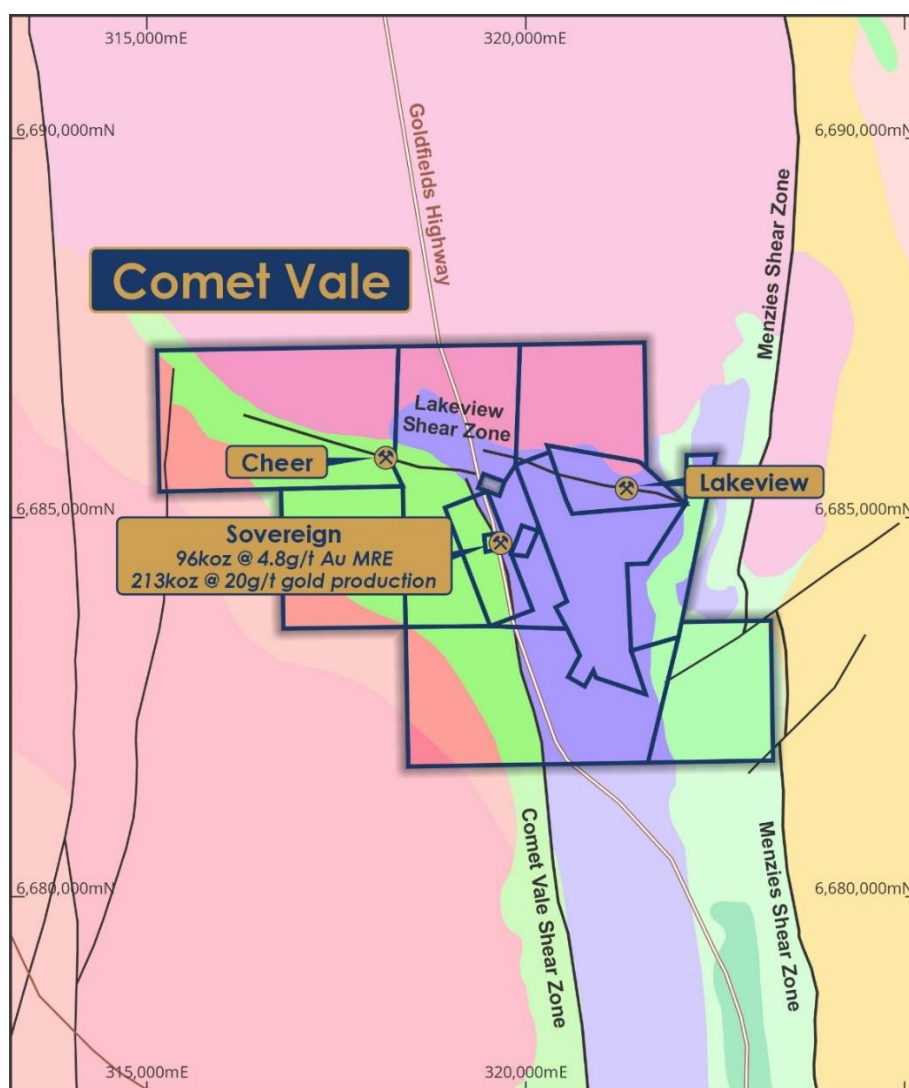

Figure 1 Plan of Comet Vale Project area
- Both drill rigs **currently testing high grade mineralisation** at the Sovereign trend which produced **200koz @ 20g/t Au¹** (Figure 1)
Labyrinth Resources Ltd ('Labyrinth' or 'the Company') is pleased to announce further drilling results from Reverse Circulation ('RC') drilling at the Comet Vale Project, north of Kalgoorlie, Western Australia. The results relate to 31 Reverse Circulation holes that have been drilled at the Cheer and Sovereign prospects (Figure 1, Table 1&2). Further results are expected in the coming weeks.
Drilling commenced at the Cheer Prospect (Figure 1), within the Comet Vale Project on the 7th of October 2024 utilising one RC rig. Labyrinth has added an additional drill rig as of 29th November 2024 and has begun drilling the Sovereign prospect. Further drilling programs for the Cheer prospect and also the Lakeview prospect are planned.